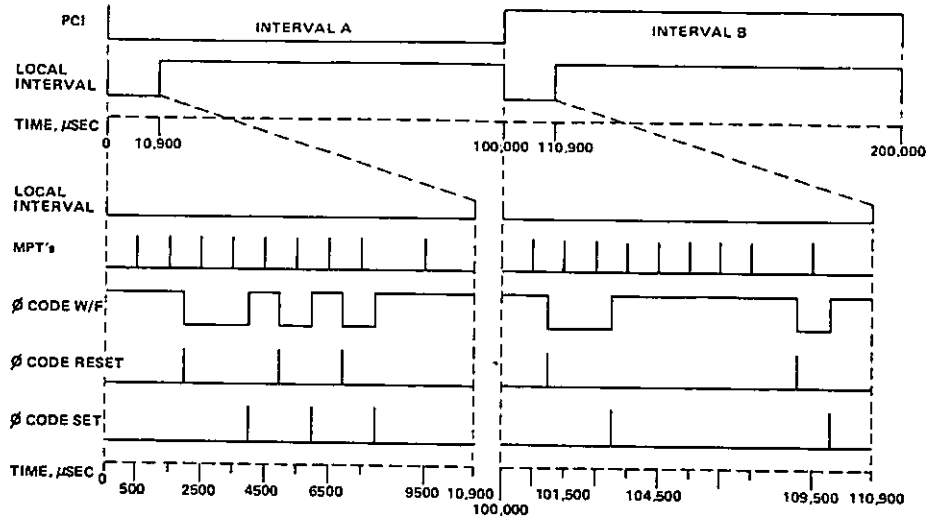

Figure 4.1. Master Station Time-Ladder Diagram
4.4 Time-ladder Diagrams. Figures 4.1 and 4.2 are the time-ladder diagrams for master and secondary stations, respectively. The signals are received by the TCS equipment from the Loran Timing Set(s). The Local Interval starts 500 μ sec before the first MPT and ends 1,400 μ sec after the last MPT. The master station's Local Interval is 10,900 μ sec long, and the secondary station's Local Interval is 8,900 μ sec long. Phase Coding of the MPTs occur between the Phase Code Reset (starts the negative \emptyset code) and Phase Code Set (starts the positive \emptyset code) pulses.